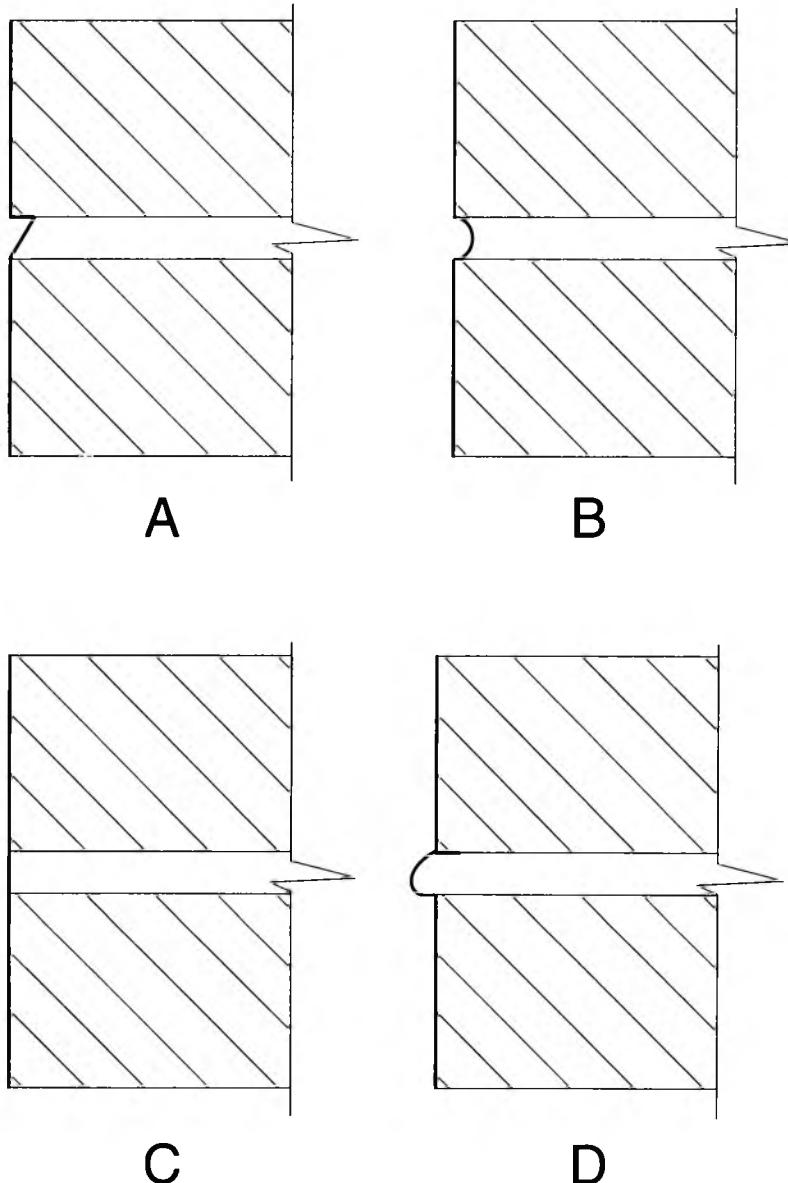

Figure 18-19: Four types of mortar joints used on brickwork.
50. Which of the diagrams in Figure 18-19 shows the most weather-resistant and durable exterior masonry mortar joint?